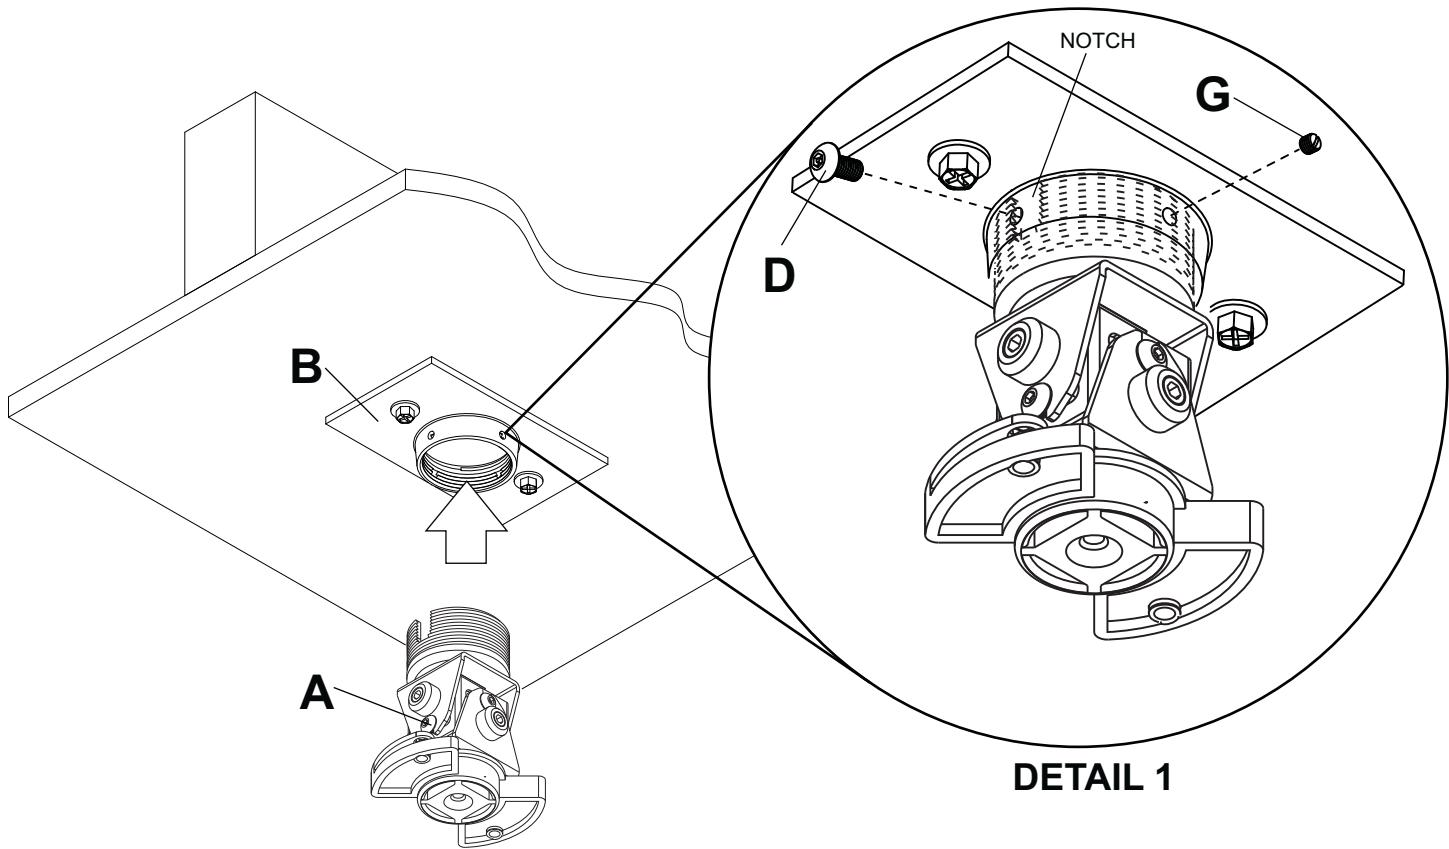

fig. 2.1
- 2** Hand thread projector mount assembly (**A**) into ceiling plate (**B**) as shown in figure 2.1. Align the notch of projector mount assembly with one of the four holes in ceiling plate (**B**) and secure with an M5 x 10 mm socket pin screw (**D**) using allen wrench (**H**) as shown in detail 1.